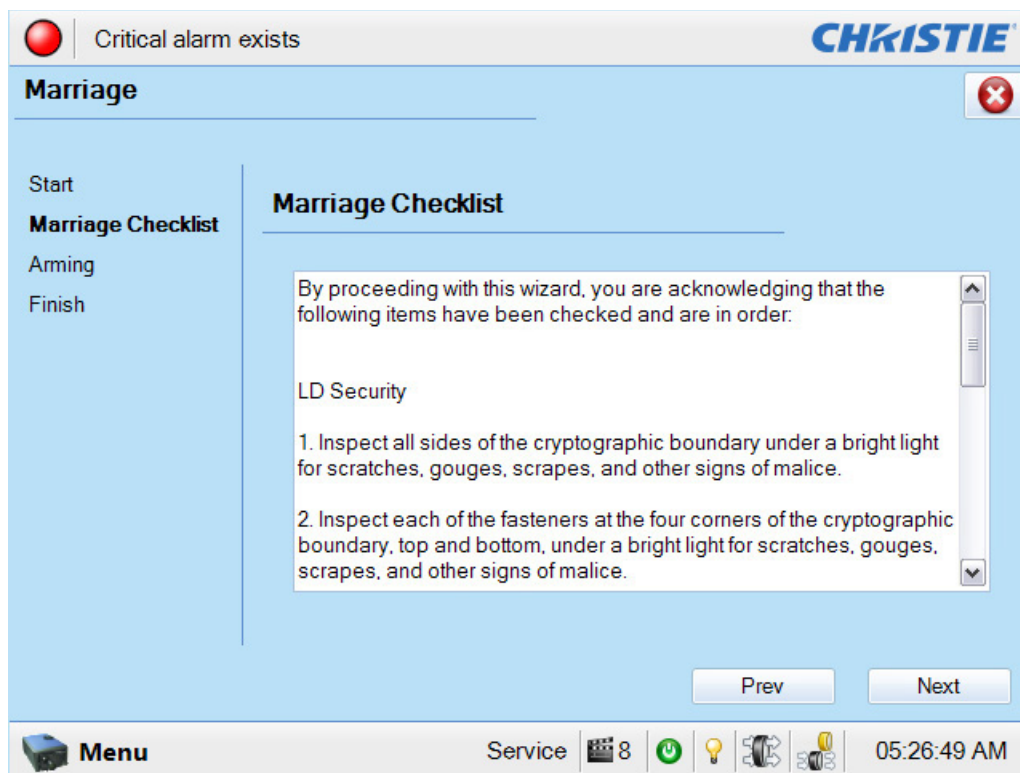
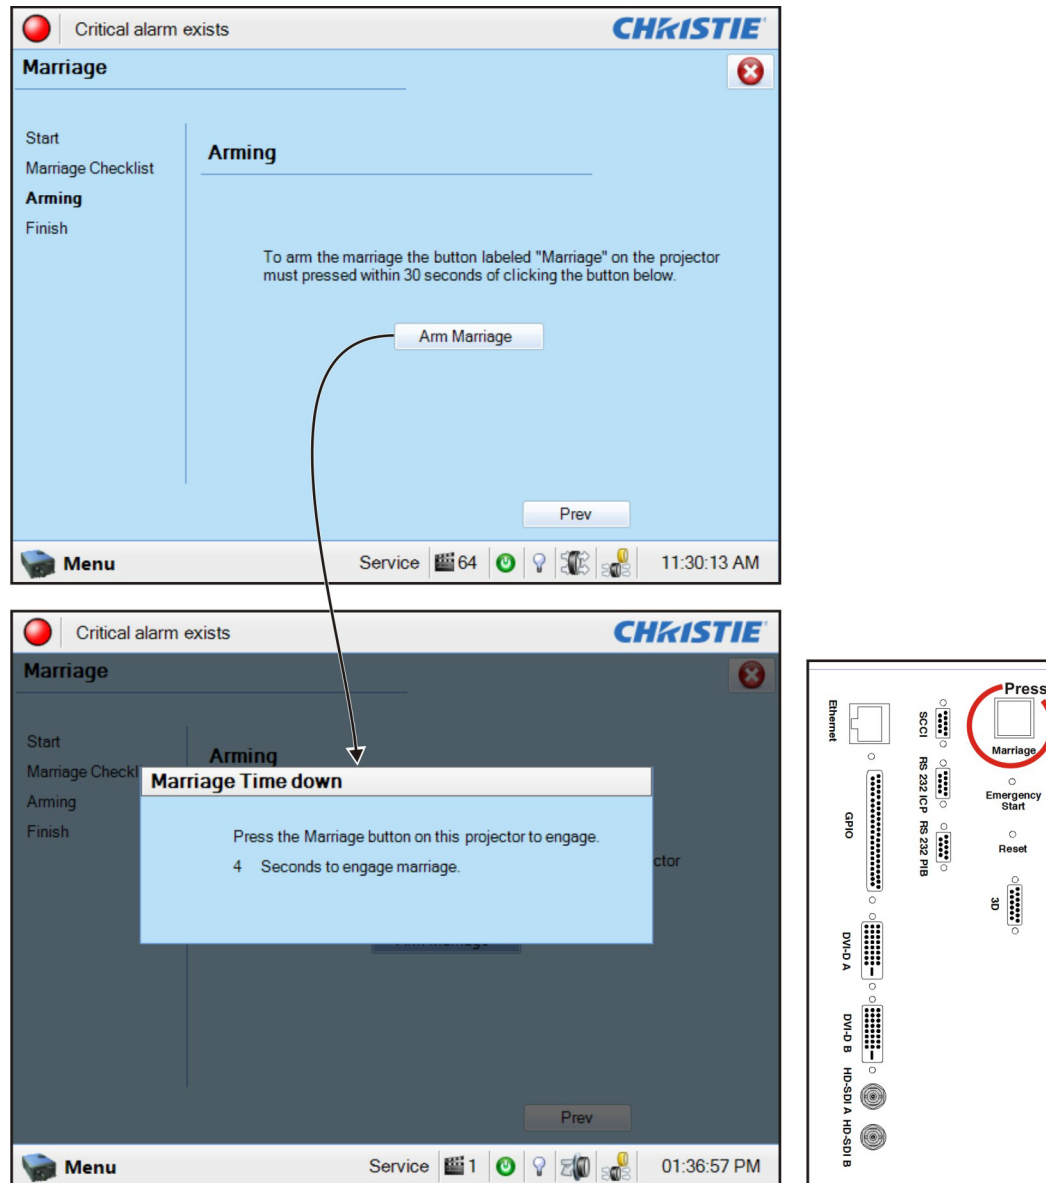

Figure 3-6 Administrator Setup: Marriage Checklist Window
Figure 3-7 Press Marriage Button on PI Board after Clicking Arm Marriage Button
Marriage is the engaging of the DCI physical interlocks that enable the display of secured materials. The **Marriage** window begins a series of panels that guides you through the sequence of steps required to engage the projector's married condition. The left column of the **Marriage** window shows which state you're currently at in the marriage process (**Figure 3-6**). Click the **Next/Prev** buttons to navigate the series of steps.
2. In the **Marriage Checklist** window (**Figure 3-6**), the wizard checks that all tamper switches are secure and presents a list of items that you must check to ensure the projector is secure before proceeding. Click the **Next** button to proceed to the **Arming** window.
3. In the **Arming** window, click the **Arm Marriage** button (Figure 3-6). A 30 second count-down timer begins (Figure 3-7). The LED in the **Marriage** button on the PI Board will flash green during this count-down. You **MUST** press the **Marriage** button on the PIB within this 30 second window in order for the marriage to take effect. When the **Marriage** button is pressed, the LED button will change to a solid green to indicate a successful marriage.